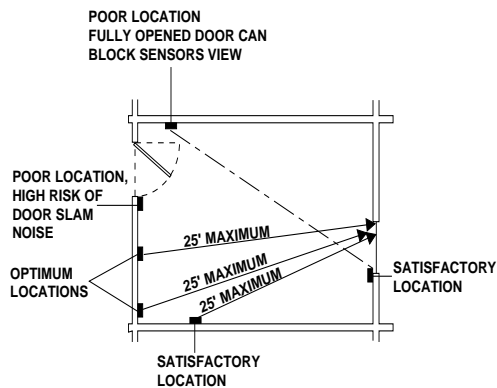

Figure 1. Sensor Mounting Locations
- Mount the sensor within 25 feet of the glass to be protected (see Figure 1).
- Do not mount the sensor near doors and windows that can be slammed (see Figure 1).
- Do not mount the sensor where a door can be closed between the sensor and the glass, or where an open door may obstruct the sensor's line-of-sight (see Figure 1).